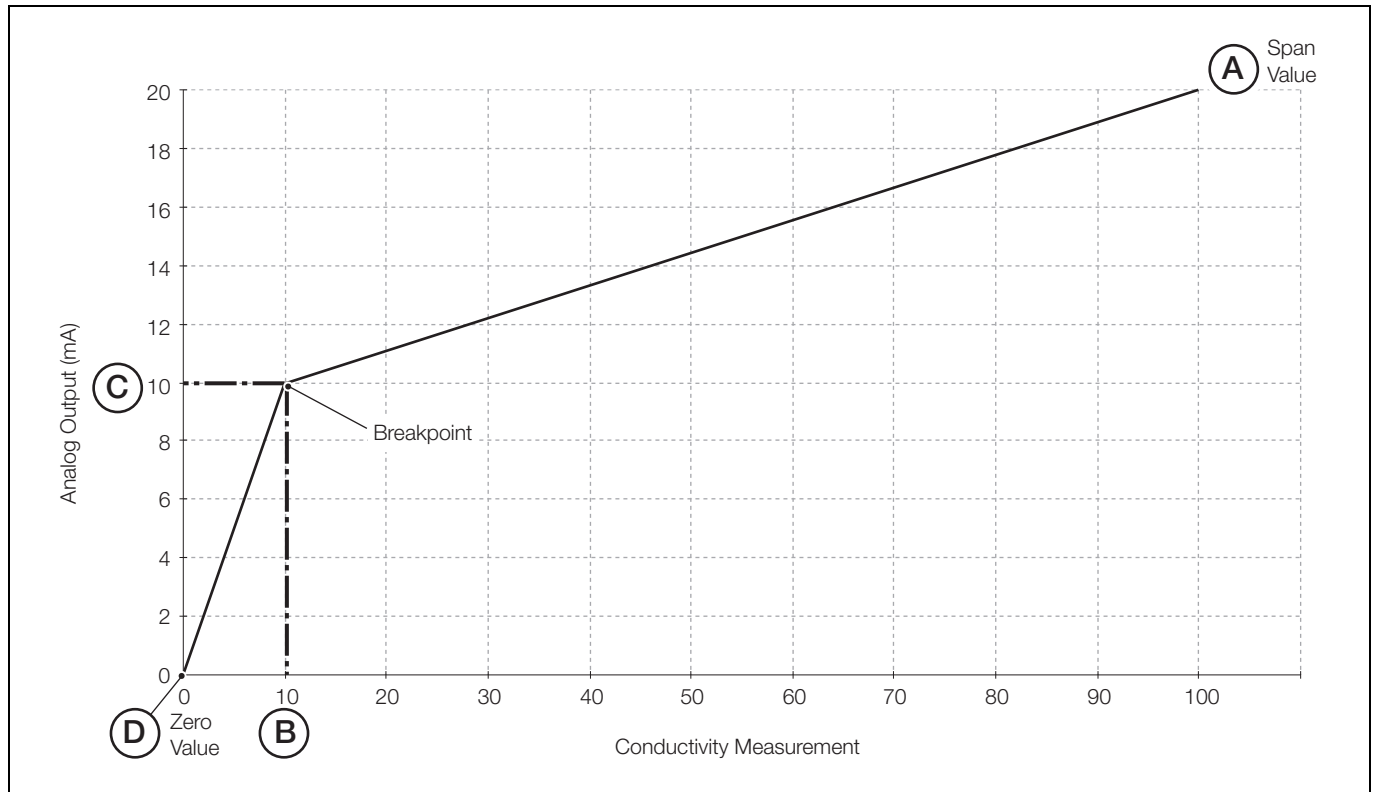

Fig. 5.6 Bi-Linear Output
- Bi-Lin** – Bi-linear – see Fig. 5.6 on page 39
uS/cm and **Adjust** are shown alternately on the upper display line. Use the ▲ and ▼ keys to adjust the displayed reading to the required span value. This is Point A in Fig. 5.6.
uS/cm and **Adjust** are shown alternately on the center display line. Use the ▲ and ▼ keys to adjust the displayed reading to the required zero value. This is Point D in Fig. 5.6.
uS/cm and **Adjust** are shown alternately on the upper display line. Use the ▲ and ▼ keys to adjust the displayed reading to the required breakpoint conductivity value. This is Point B in Fig. 5.6.
mA and **Adjust** are shown alternately on the center display line. Use the ▲ and ▼ keys to adjust the displayed reading to the required breakpoint current value. This is Point C in Fig. 5.6.
5.6.1 Bi-Linear Output – Fig. 5.6